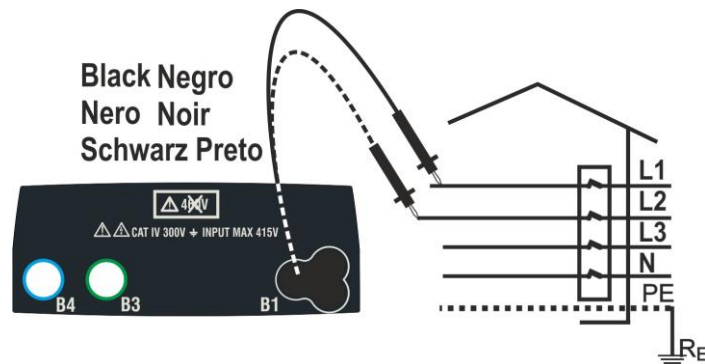

Fig. 35: Phase sequence check with test leads
2. Insert the black lead connector into the corresponding input B1 of the instrument. As an alternative, use the single cable and apply the relevant alligator clips to the free ends of the cables. It is also possible to use the remote switch probe by inserting its multipolar connector into the input B1. Connect the alligator clips or the remote switch probe to the electrical mains according to Fig. 35 or Fig. 36.
5. Under these conditions, connect the alligator clips, the tips or the remote switch probe to phase L2 in accordance to Fig. 35 or Fig. 36.